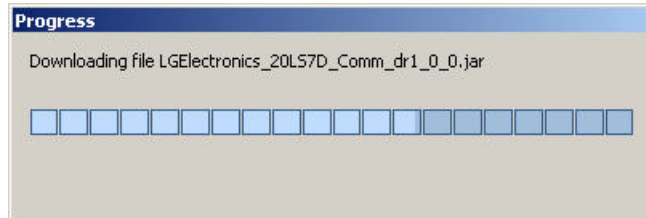

FIG. 292 Progress bar
4. The progress of the Download/Install operation is indicated in the Progress bar (FIG. 292):